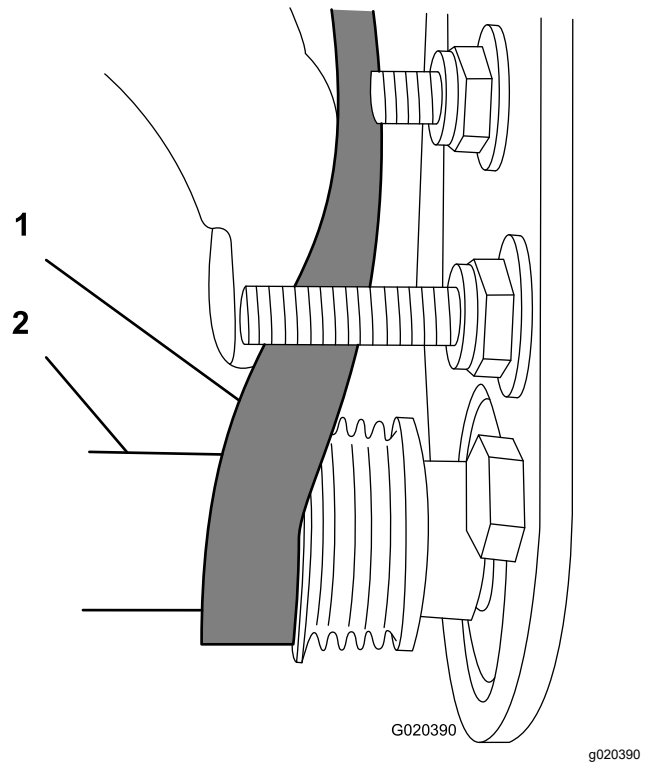

Figure 17
- Start the belt on the **driven** pulley (Figure 17).
- Use a deep-well socket (9/16 inch) to rotate the brush assembly and guide the belt onto the driven pulley (Figure 17).